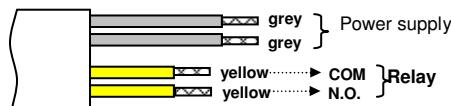

Fig. 2
- 3: Use the screws to fix the detector to the supporting surface. Pass the cable through the relevant slot and plug it into the connector (see Figure 2).